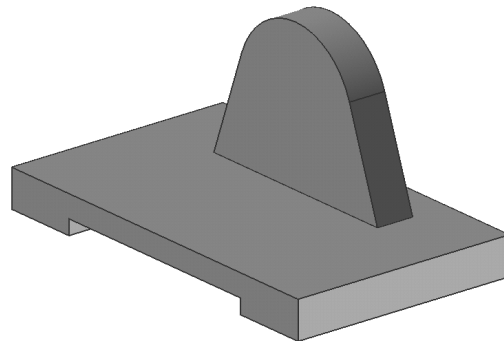

Figure 8-53 The model after creating the taper feature
- f. Create the draft on the edge blend surface of the rectangular pad using the **Draft** tool, refer to Figure 8-53.
4. Enter the angle value as **20** in the **Set1 A** edit box. Choose the **Apply** button and then the **Cancel** button. The resulting model is shown in Figure 8-53.